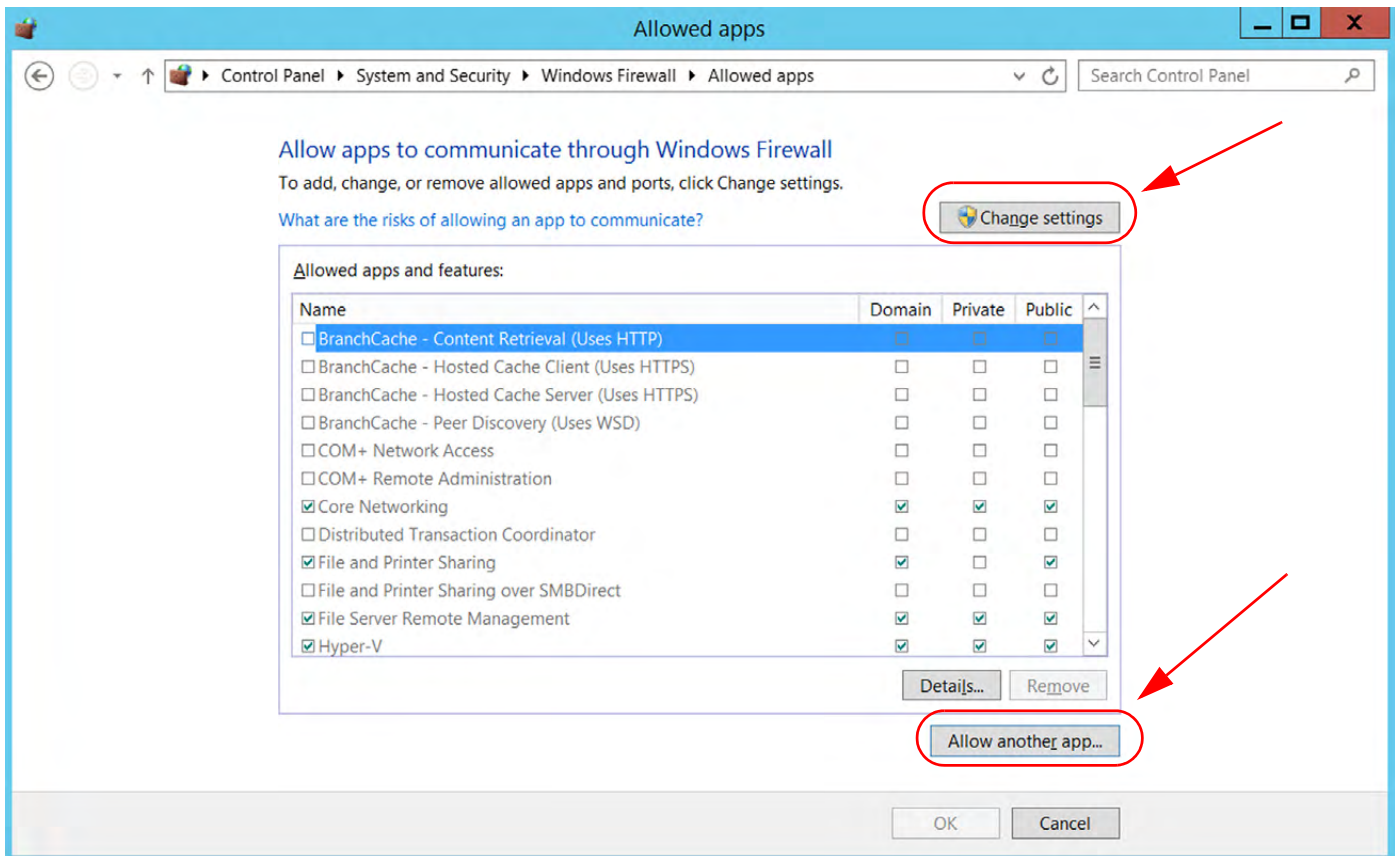

Figure 3.4: Windows Server 2012: Change Settings -> Allowed Another app
4. From the Windows Firewall screen -> Allow apps to communicate through Windows Firewall, select “Change settings”, then select “Allow another program”. See Figure 3.4.